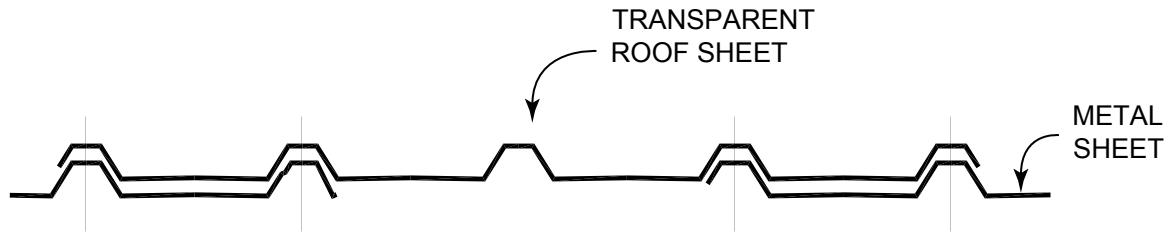

Figure 28
Fit light panel over top of steel sheets by two (2) crests. (Figure 28)